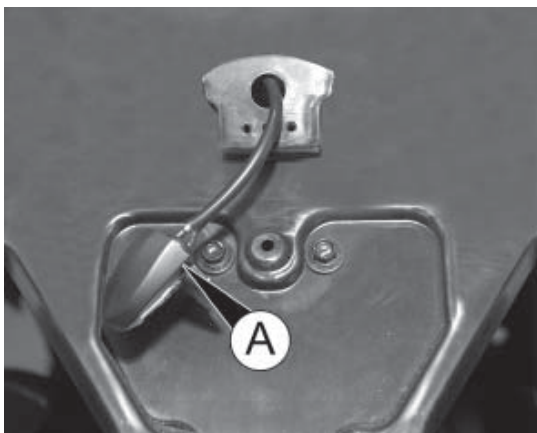

fig. 6
- Remove the complete bulb-bulb holder assembly A fig. 6 from the plastic cover
- Install the bulb-bulb holder assembly A fig. 6 inside the plastic cover